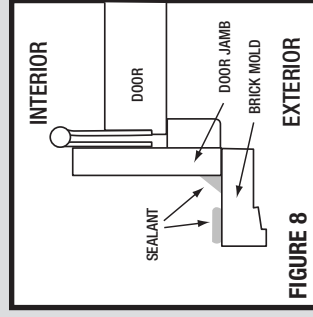

FIGURE 8
- 3.8.1. Apply TeQ::Seal to brick mold. (figure 8)